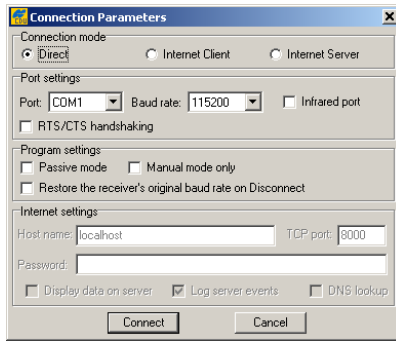

Figure 3-8. Bluetooth and RS232 Connection Parameters
3. On the **Connection Parameters** dialog box, select the following parameters for Bluetooth or RS232 connections and click **Connect** (Figure 3-8):